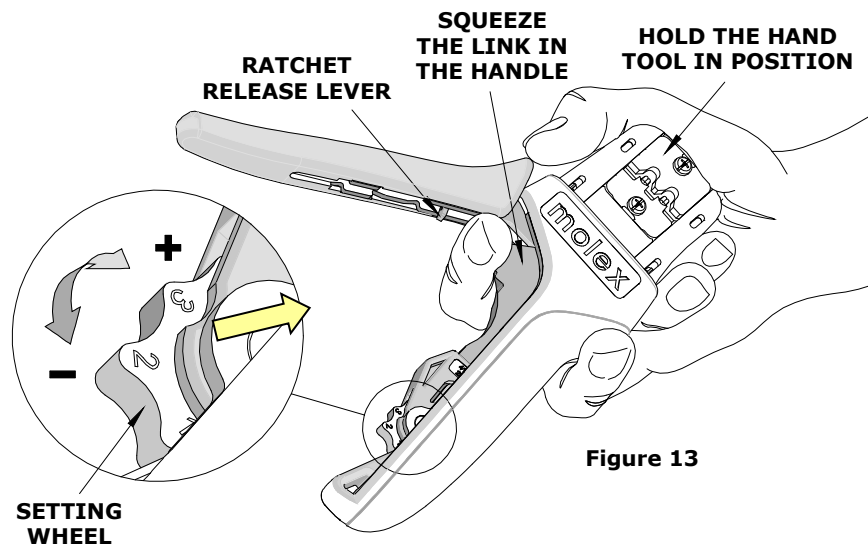

Figure 13
How to Adjust Tool Preload (See Figure 13)
1. Hold the hand tool in the palm of your hand as shown in Figure 13. Using your index finger, squeeze the link toward the top of the hand tool frame. This will release the preload adjustment wheel.
2. Rotate the setting wheel counterclockwise (CCW) to increase handle force. The numbers will display higher. To decrease handle force, rotate the setting wheel clockwise (CW).